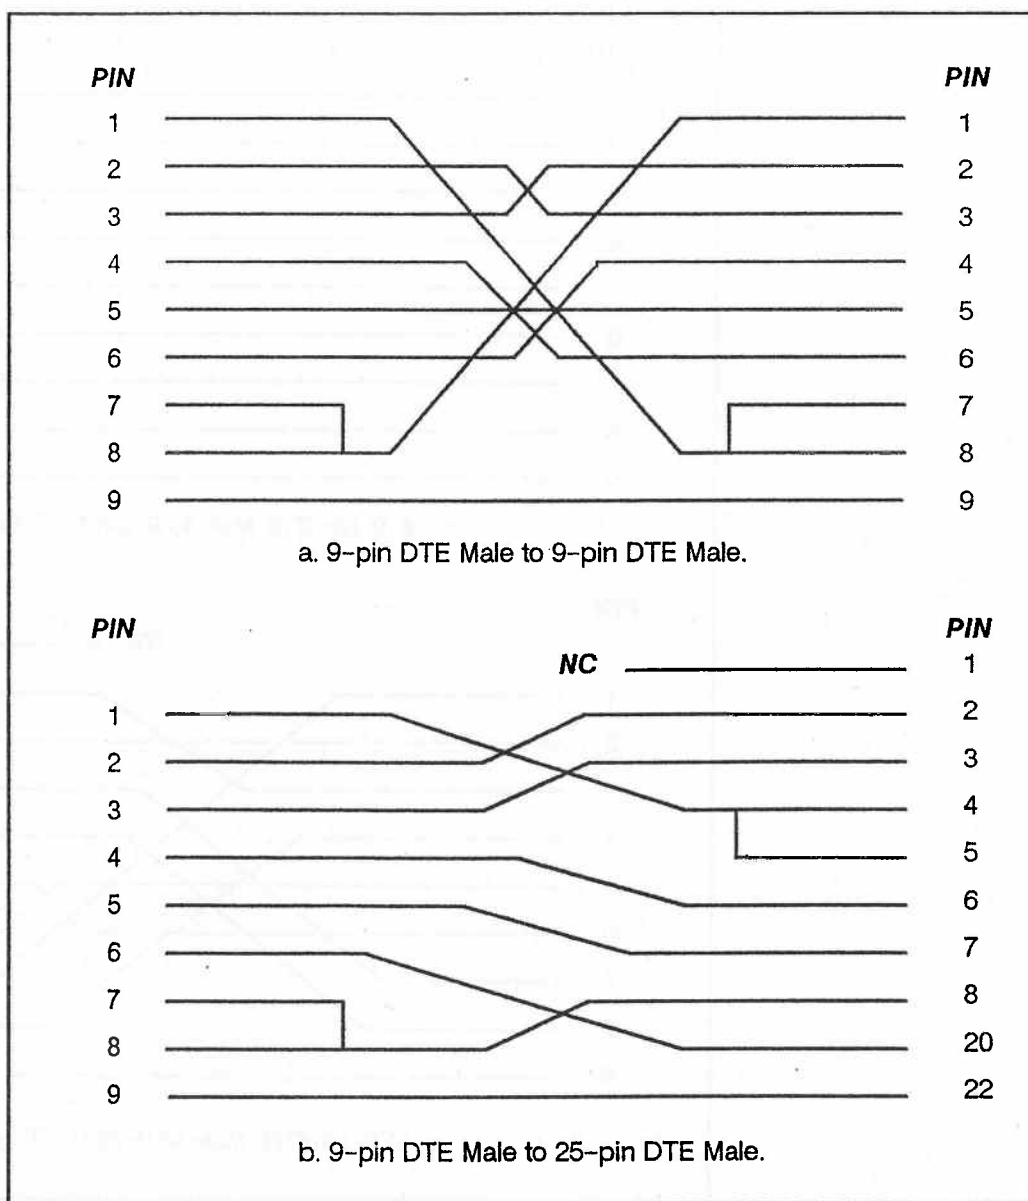

Figure F-5. Null Modem cable wiring (with handshaking).
2. A "Null Modem cable or device may be used to interconnect two DTE or two DCE devices. Generally the cable is custom made with RS-232-C connectors that match the devices to be interconnected. A null modem cable permits two devices of the same type (DCE to DCE and DTE to DTE) to communicate as if they were connected DTE to DCE. The Transmit and Receive lines and the associated handshake lines are swapped in the null modem to satisfy the requirements for data transfer between the two devices. See Figure F-5 for the "Null Modem" cable wiring schematic.